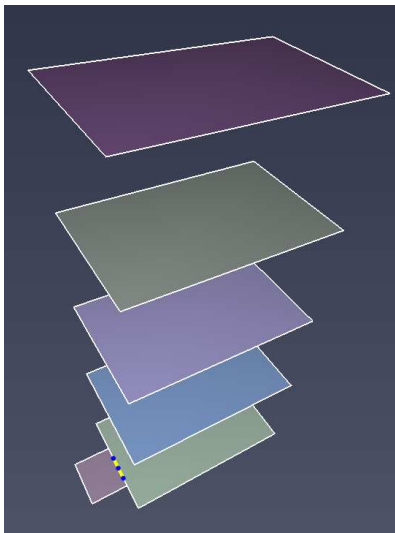

Figure 55. Draw elevator door
2. Draw all doors on the boundary of the base room, see Figure 55. Occupants will use these doors on every floor to enter and exit the elevator.